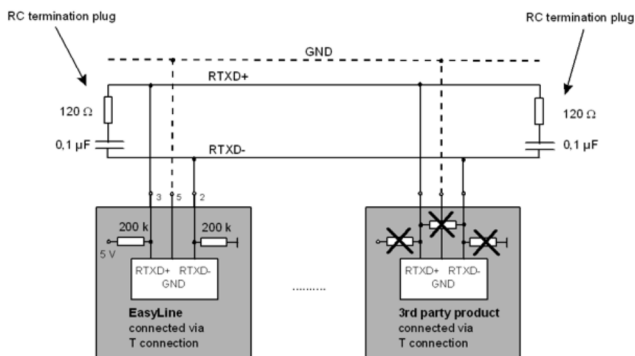

Figure 3: Modbus cabling
- Alternative cabling elements can be used as long as they comply with the specifications in **Figure 3**.